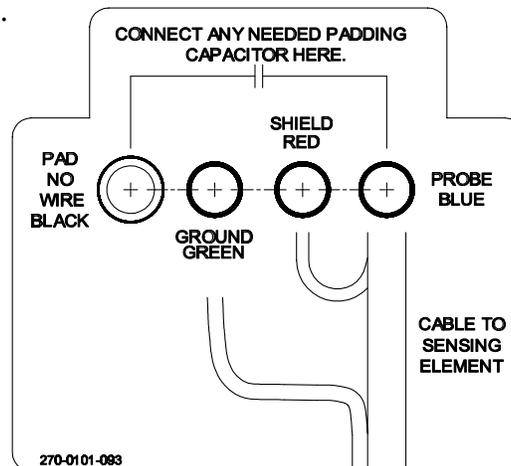

Figure 4-1
- A. See Figure 4-1. Disconnect the cable from the probe center wire (blue), shield outer wrap (red), and ground heavy wire (green) terminals at the instrument. Leave the power connected. Place all *Failsafe* switches to the HLFS position, and the *Relay 2 Diff Cal* switch to the OFF position.